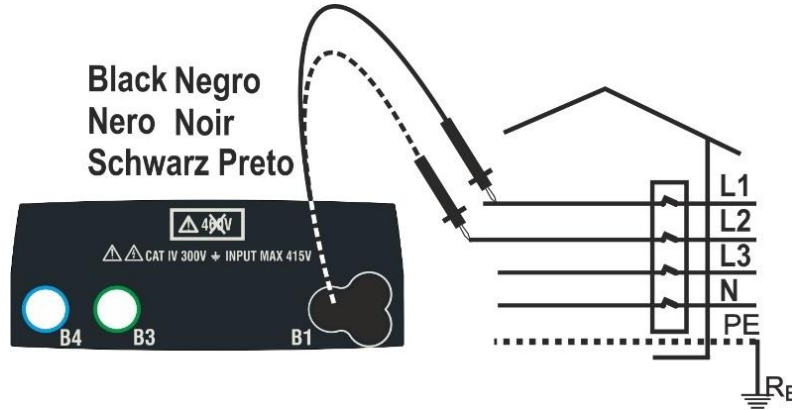
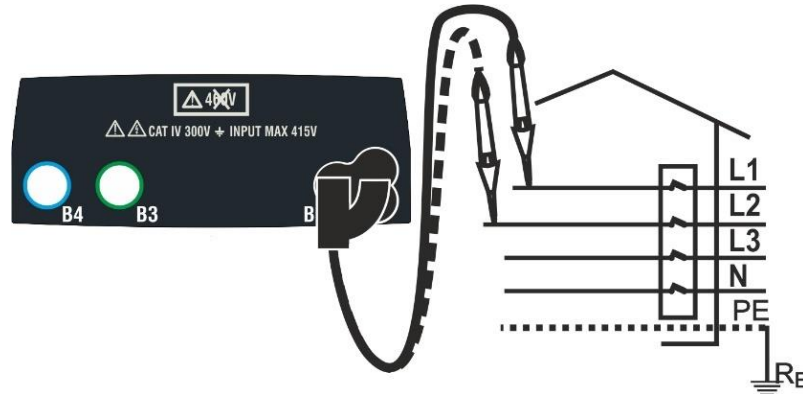

Fig. 31: Phase sequence check with test leads
Fig. 32: Phase sequence check with remote switch probe
2. Insert the black lead connector into the corresponding input B1 of the instrument. As an alternative, use the single cable and apply the relevant alligator clips to the free ends of the cables. It is also possible to use the remote switch probe by inserting its multipolar connector into the input B1. Connect the alligator clips or the remote switch probe to the electrical mains according to Fig. 31 or Fig. 32.
- Under these conditions, connect the alligator clips, the tips or the remote switch probe to phase L2 in accordance to Fig. 31 or Fig. 32.